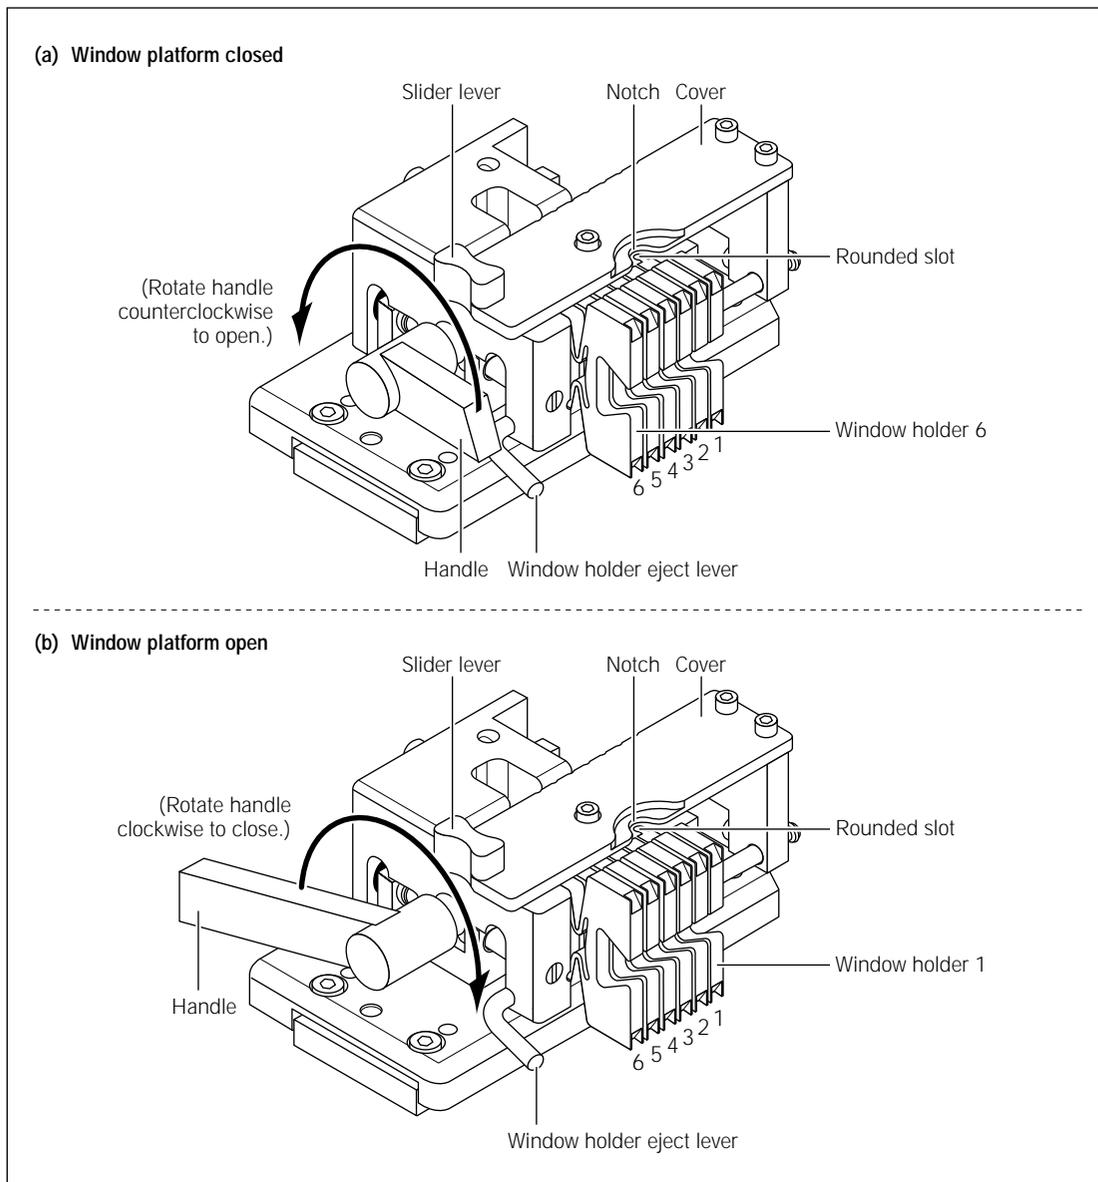

Figure 4-7. The window platform: (a) closed position and (b) open position.
3. Rotate the handle at the front of the window platform counterclockwise to the open position (figure 4-7). The window platform moves to the left, away from the scanning face.
10. Holding the plastic window holder in your left hand and the handle of the anode plug in your right hand, gently lower the window holder into the slot, making sure that the rounded portion of the window holder fits into the round slot (figure 4-7).